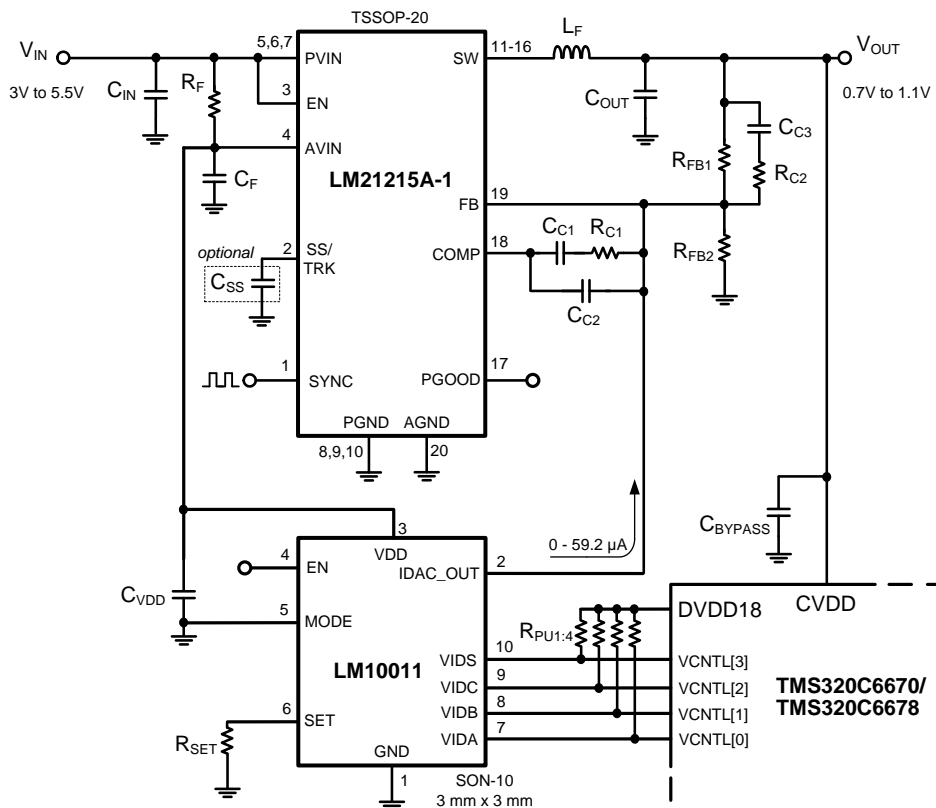

Figure 12. 6-Bit Mode Design Example
In this example, an LM21215A-1 is used as the voltage regulator and the desired range of output voltage operation is 0.7 V to 1.1 V. The LM10011 can provide control of the output voltage within this range with 6 bits or 4 bits of resolution. For this example, the 400 mV of voltage range translates to a  $V_{OUT\_LSB}$  of  $400\text{ mV} / 63 = 6.4\text{ mV}$  (26.7 mV in 4-bit mode) at the regulator output. In this calculation, 1% resistor values are used. A schematic for this example is shown in Figure 12.
Looking at the Typical Application Circuit in Figure 12, the following equation defines  $V_{OUT}$  of a given regulator (valid for  $V_{OUT} > V_{FB}$ ):
**Table 5. 6-Bit VID Codes with IDAC Current and Regulator Voltage for the Example in Figure 12.**
The LM10011 can be driven from a PWM controller  $V_{DD}$  pin or from the  $V_{IN}$  supply pin as shown in Figure 12. To ensure reliable operation, the LM10011  $V_{DD}$  input power supply must be limited to 6 V maximum.